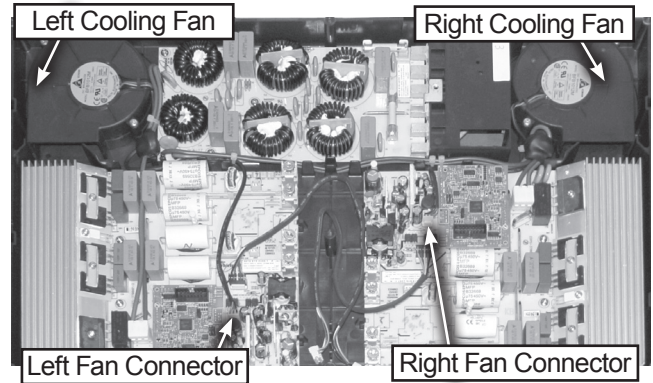

Figure 3
- a) Disconnect the 3-wire fan connector from power control board, see figure 3.